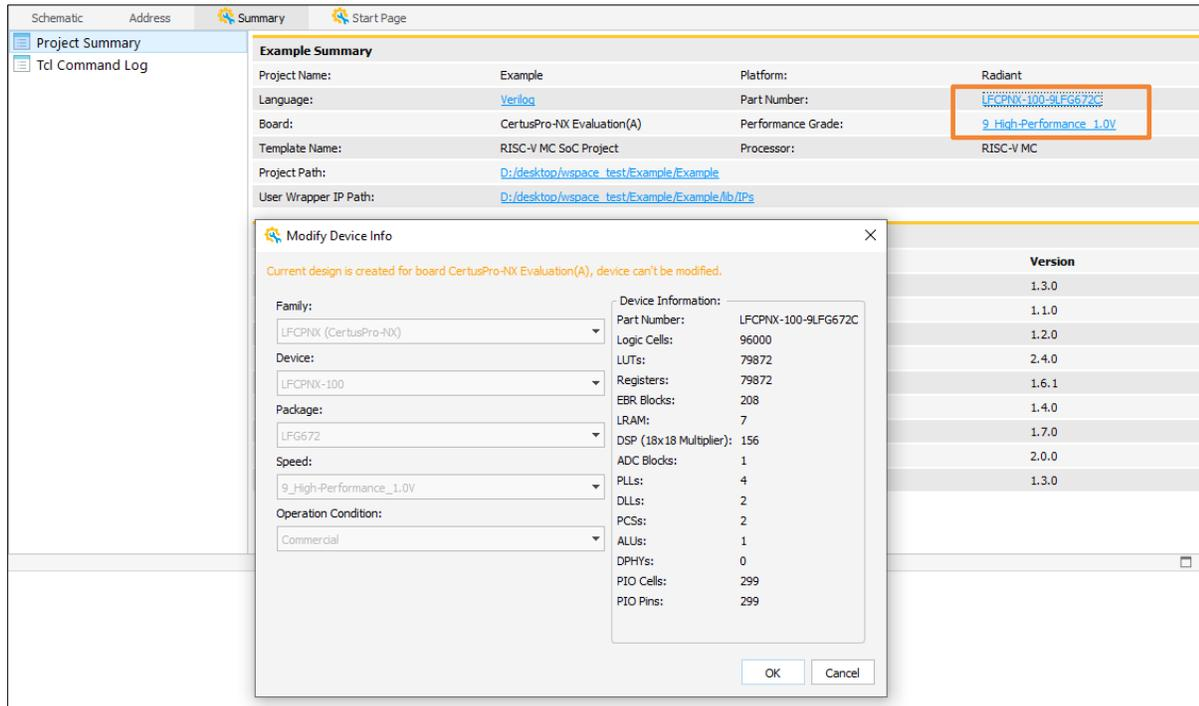

Figure 2.12. SoC Project Summary – Part Number or Performance Grade
11. Click **Part Number** or **Performance Grade** link in **Summary** (Figure 2.12) to modify the device info.